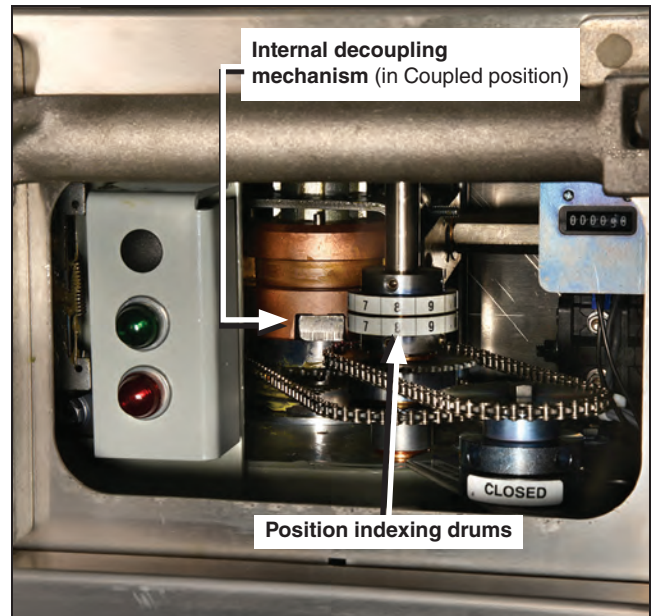

Figure 53. Verify switch is coupled.
- STEP 2.** Turn the MANUAL OPERATING handle slowly until the position-indexing drums are numerically aligned. See Figure 53.
- STEP 3.** Swing the SELECTOR handle upright and rotate it counterclockwise to the **Coupled** position. See Figure 53.